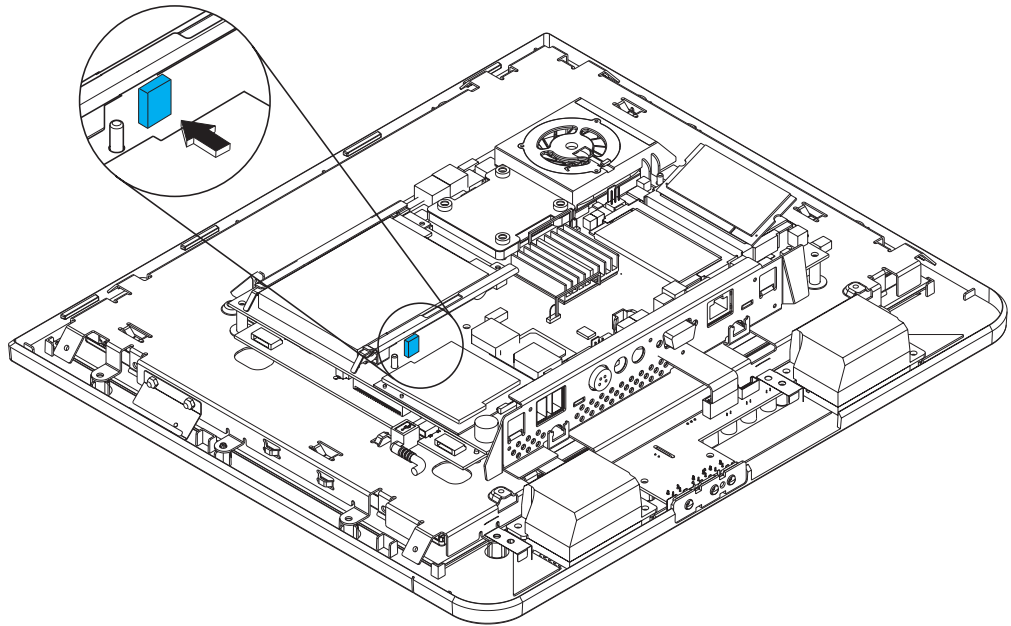

Figure 18. Location of the CMOS jumper
2. Locate the blue CMOS jumper on the main planar assembly. See Figure 18. The jumper is located near the hard drive and beside the radio card.